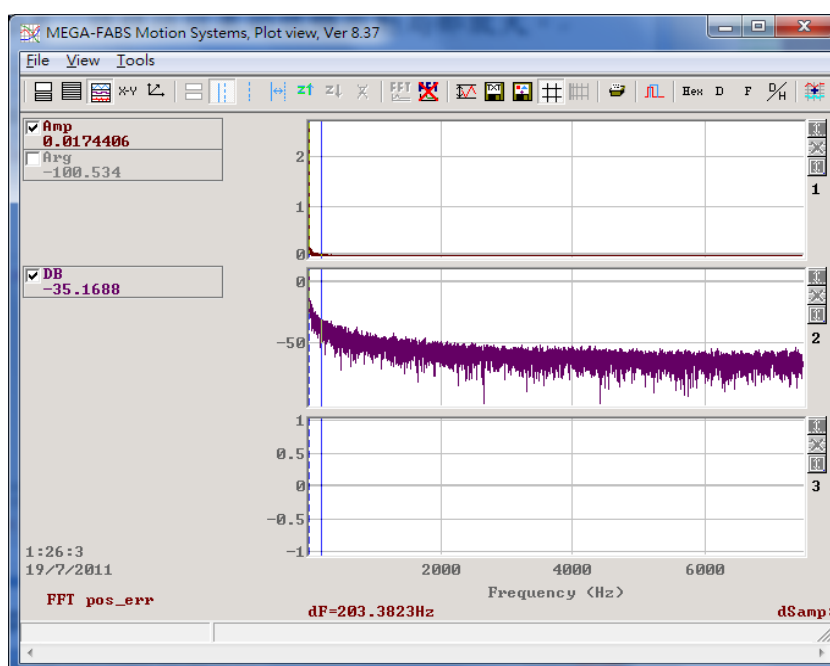

Figure 6.6.6.5
Step 7: Enlarge the low-frequency region to observe the maximum amplitude of vibration frequency, as shown in figure 6.6.6.6.